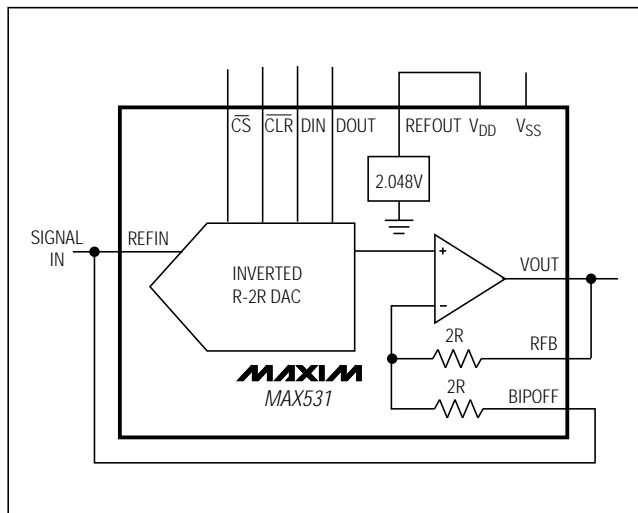

Figure 9. MAX531 Connected as Four-Quadrant Multiplier. The unused REFOUT is connected to V_{DD}.
The MAX531 can be used as a four-quadrant multiplier by connecting BIPOFF to REF and RFB to VOUT, using (1) an offset binary digital code, (2) bipolar power supplies, using dual power supplies, and (3) a bipolar analog input at REF within the range $V_{SS} + 2\text{V}$ to $V_{DD} - 2\text{V}$, as shown in Figure 9.